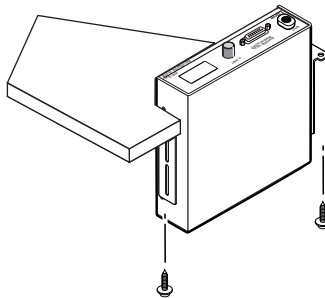

Figure 2-10 — Mounting the interface in a table
4. Using the four wood screws provided, attach the brackets to the mounting surface, as shown in figure 2-10.